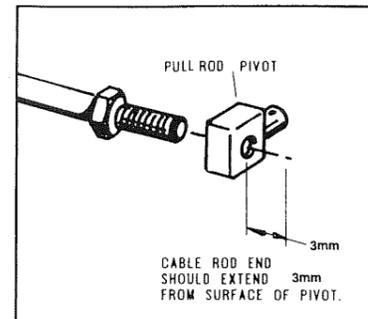

Figure 3 Cable Termination Connection
1. Attach the pivot to the end of the shift cable, as shown in Figure 3.